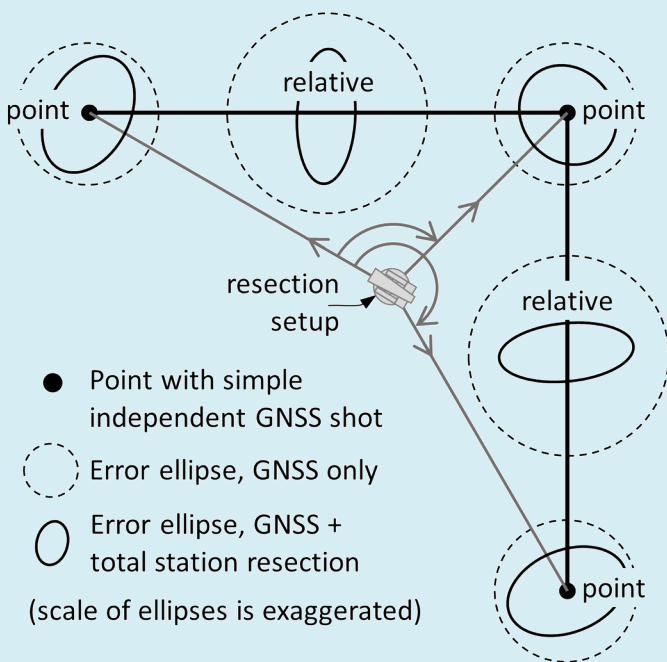
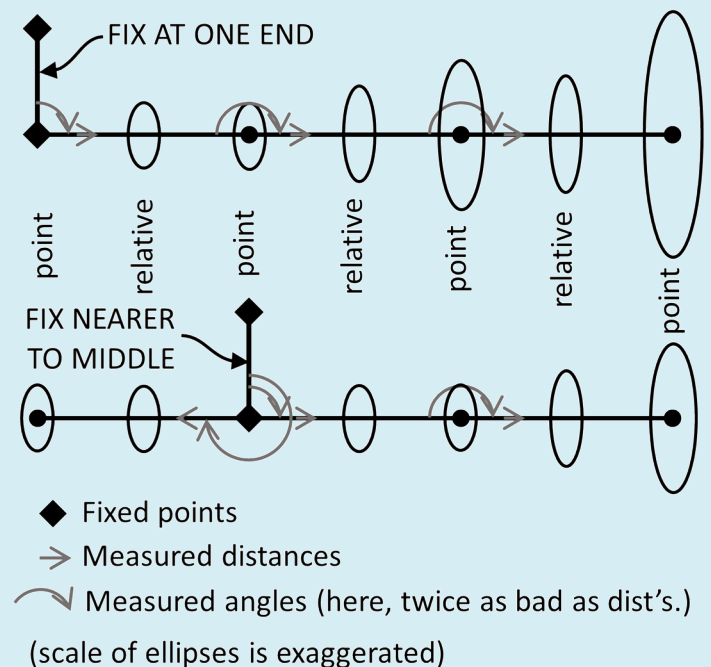

Figure 4: Relative Error Ellipses Can Be Complex
Figure 5: Changing What’s Fixed can Change Relative Error Ellipses
**2.2.** Relative error ellipses are not limited to two points directly connected by measurements. They can be computed between any two points in the network. For example, in Figure 5, the points are directly connected with distance and angle measurements, but in Figure 4 they are not. Figures 4 and 5 only show relative error ellipses between adjacent points, but they also exist between more distant points.
**2.3.** Relative error ellipses are not necessarily a simple function of the point ellipses on either end. A simple situation in which they are, would be two points shot independently with RTK GNSS (no covariance between points), with each point error ellipse being circular (no more X error than Y error, and no covariance between X and Y error at a point). In such a simple situation, the complicated error propagation simplifies to the “error of a sum” principle, where the relative error ellipse’s (circle’s) radius is the square root of the sum of squares of the radii of each point error circle (dashed circles in Figure 4). In more complicated situations, like when measurements tie points together locally, there can be
**2.5.** Relative error ellipses are not necessarily independent of which points are held fixed. Consider a pair of points “farther” from (with weaker ties to) fixed points (Figure 5). Obviously, their point error ellipses should be larger. Their relative error ellipse could be larger too, mostly because the direction (azimuth) component of that error is relative to north, not relative to an adjacent line. Even with minimum horizontal constraints of one fixed point and one fixed azimuth, moving those fixes closer to the problem points could shrink both the point and relative error ellipses. This is the sort of change that can “juke the stats” just to